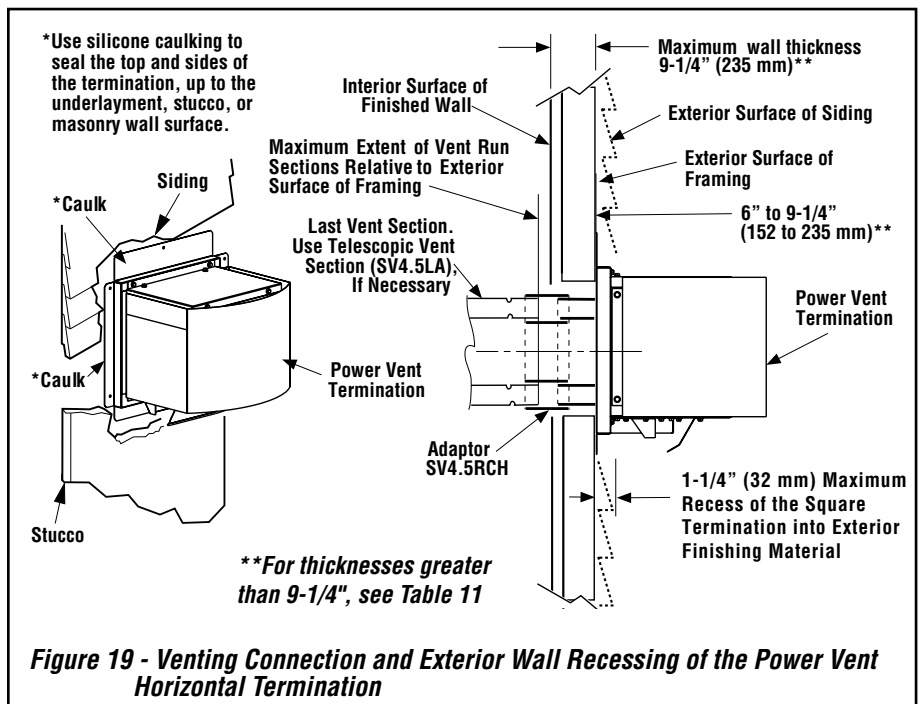

Figure 19 - Venting Connection and Exterior Wall Recessing of the Power Vent Horizontal Termination
If the terminus of the last section is not within this distance, use the **telescopic vent section SV4.5LA**, as the last vent section. For wall thicknesses greater than that shown in **Figure 19 on Page 19**, refer to **Table 11 on Page 19** for the additional venting components needed (in addition to the termination and adaptor) for a particular range of wall thicknesses.
M. Install the Power Vent termination - From outside the exterior wall, slide the collars of the termination onto the adaptor until the termination seats against the exterior wall surface to which it will be attached. Orient the housing of the termination with the arrow pointed upwards. Secure the termination to the exterior wall. **The termination must not be recessed into the exterior wall or siding** by more than the 1-1/4" (32 mm) as shown in **Figure 19**.